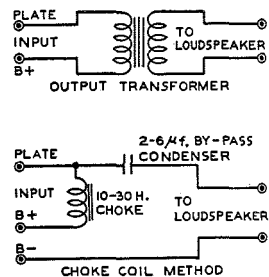

Fig. 20
Output coupling devices are of two types, (1) choke condenser and (2) transformer. The choke-condenser type consists of an iron-core choke coil with an inductance of not less than 12 henrys which is placed in series with the plate and B-supply. The choke offers a very low resistance to the d-c plate current but opposes the flow of the fluctuating signal voltage. A by-pass condenser of 2 to 4 μf. supplies a path to the speaker winding for the signal voltage. The transformer type is constructed with two separate windings, a primary and a secondary wound on an iron core. This construction permits of designing each winding to meet the requirements of its position in the circuit. Typical arrangements of each type of coupling device are shown in Fig. 20.